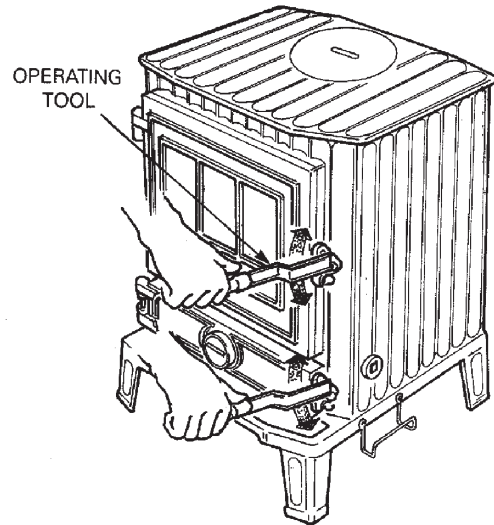
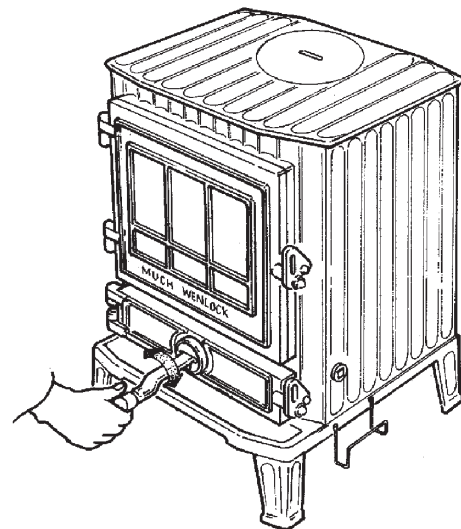

Fig. 1
Fig. 2
- Open the firedoor, Fig. 1.
- Close and lock firedoor. See Fig. 1 and set the ashpit door spinwheel eight turns open. Fig. 2.
- Close and lock firedoor, Fig. 1 with the operating tool.
- Adjust the ashpit door spinwheel, Fig. 2 to give the desired rating of burning.
- Open the locked ashpit door with the operating tool, Fig. 1.